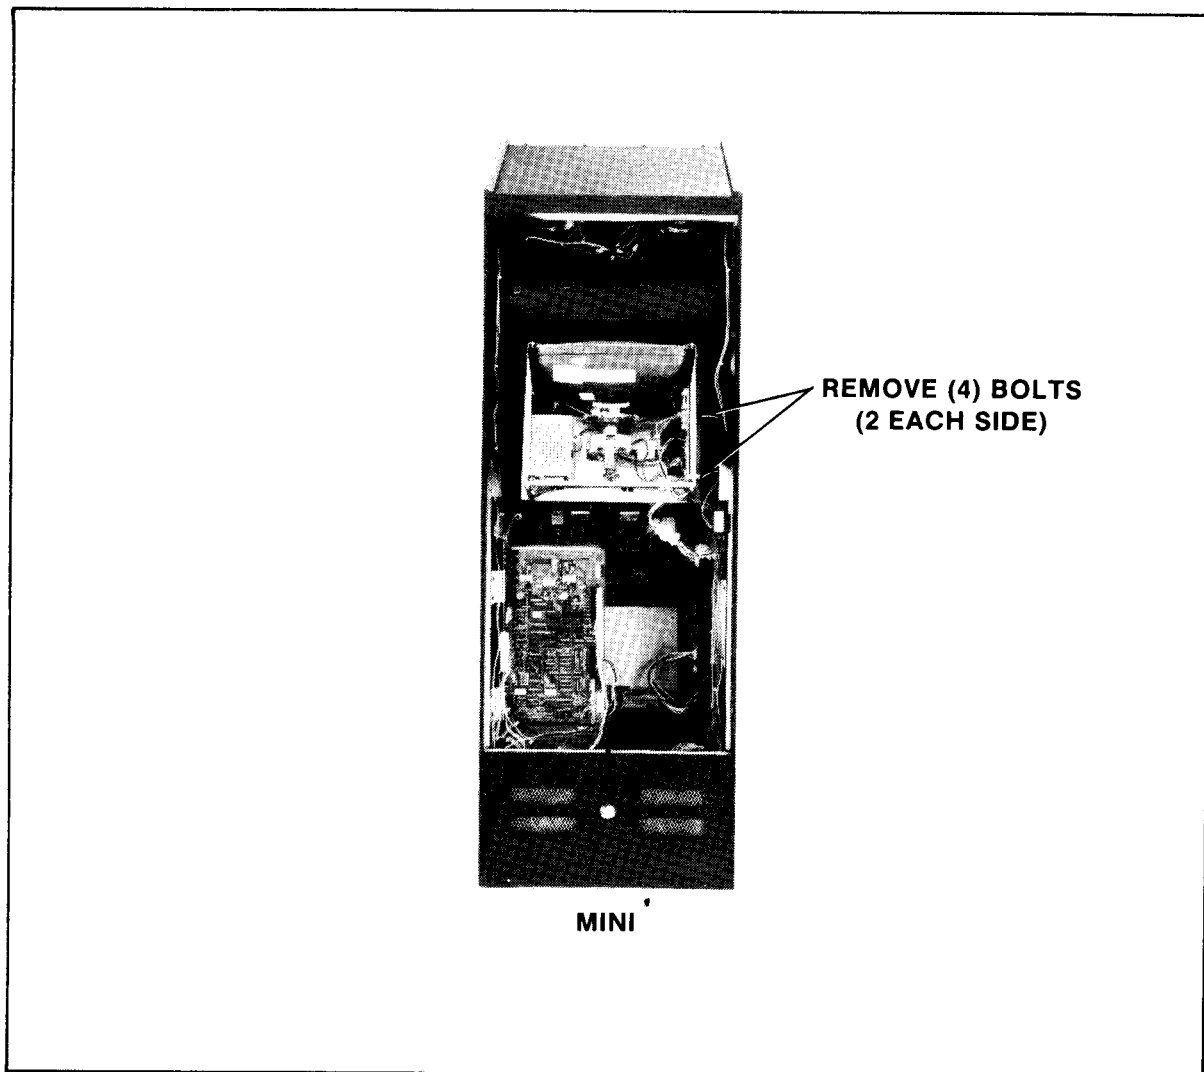

FIGURE 28
2. Mini model — See Figure 28.